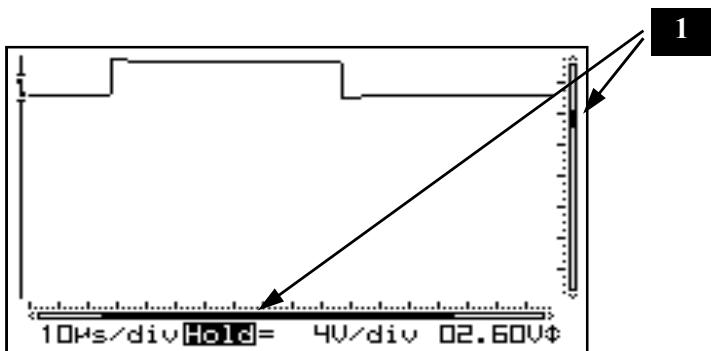

Fig 35
Press first the „X/Y-pos“ key before pressing the arrow keys in order to move the signal in the direction of the arrows. Prolonged pressing will make the X or Y- position change faster. A black bar (1) indicates the relative position of the signal in the sample window, see fig. 35